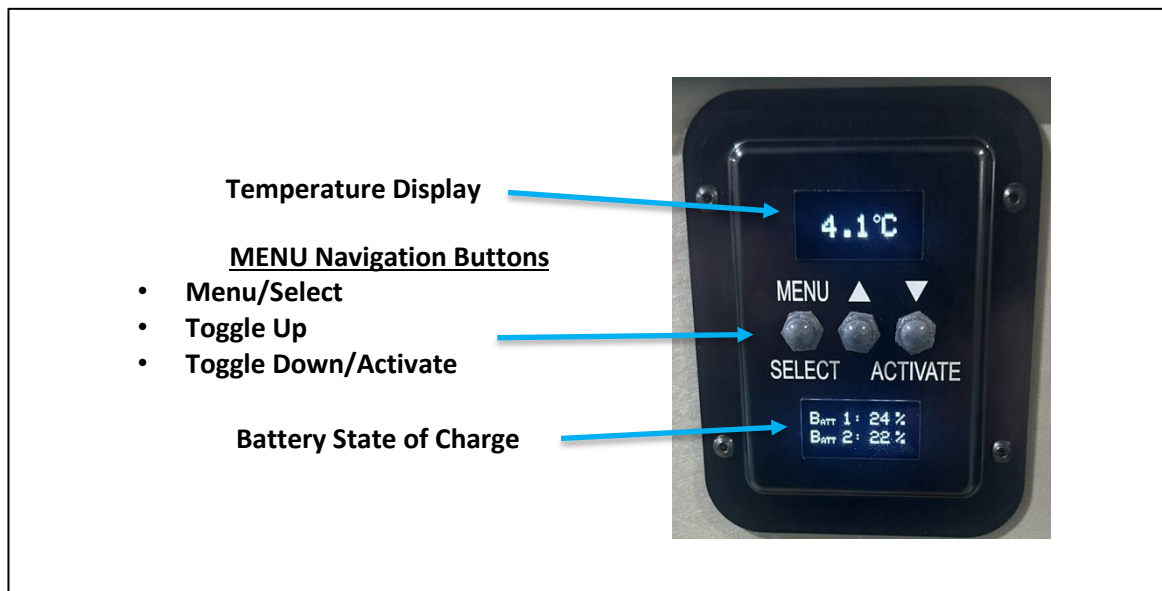

Figure 10: ECM Display, Startup Screen – Battery Example
- 7) Once a power source is connected, the xFridge will start up within 3-5 seconds as indicated by the ECM Displays (see Figure 10)